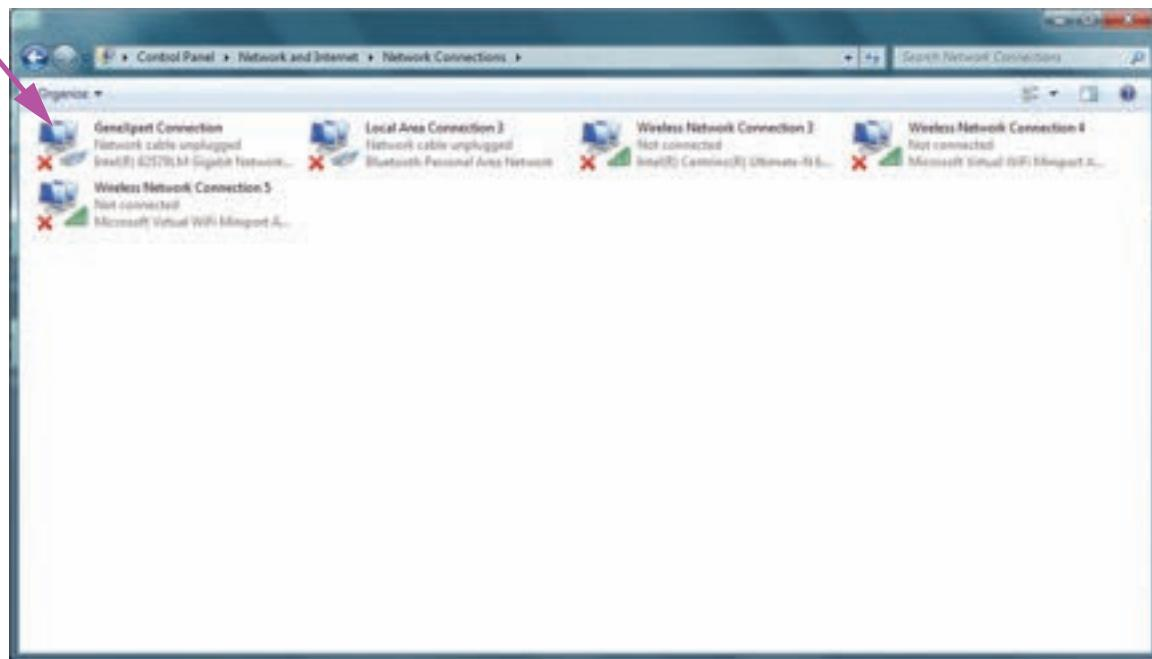

Figure 2-39. Network Connections Screen
5. Click **Change adapter settings**. The Network Connections screen appears. See Figure 2-39.